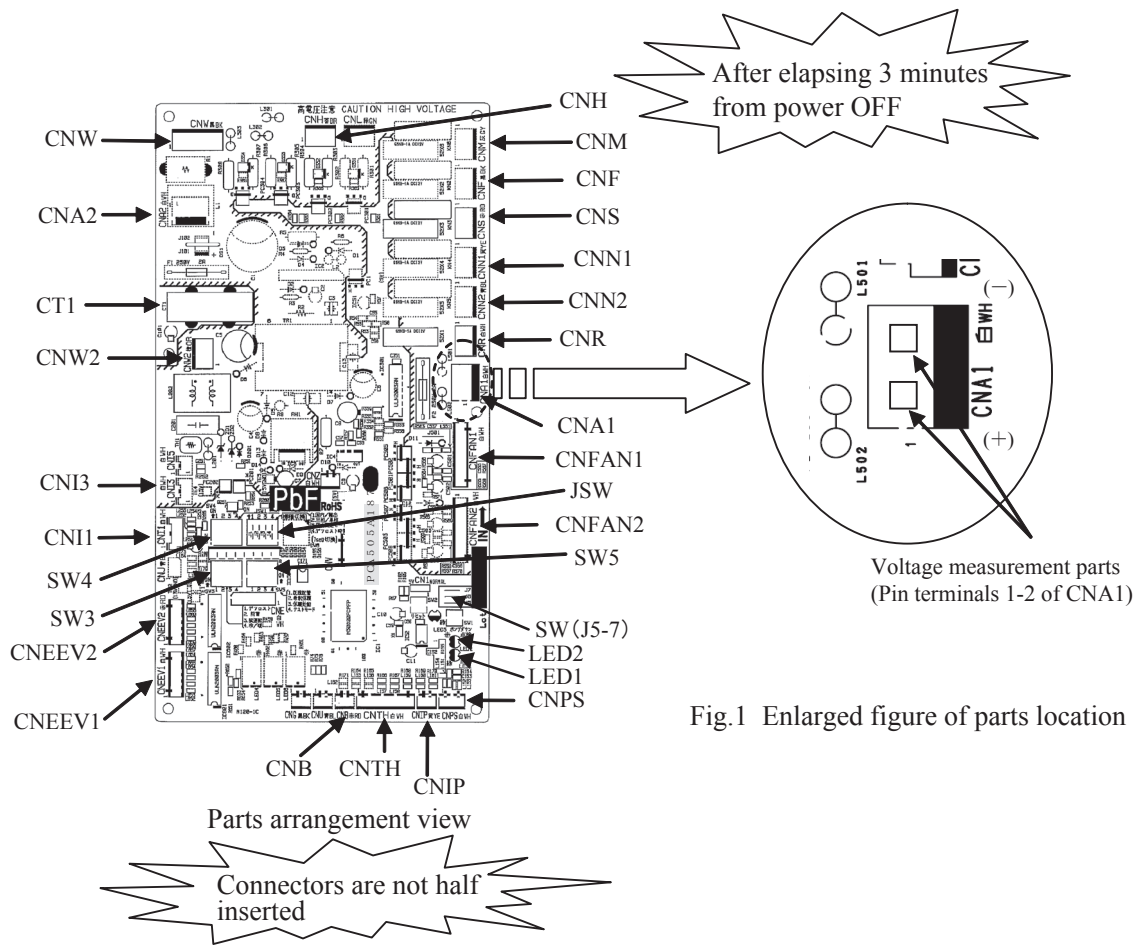

Fig.1 Enlarged figure of parts location
- 6) Connect the connectors with the control PCB referring to the parts arrangement of Fig. 1.
**(Be sure to measure voltage (DC) on both capacitor terminals located in control back, and check that the voltage is discharged sufficiently.** (Refer to Fig.1))
(**Be sure to measure voltage (DC)** on both capacitor terminals located in control back, and **check that the voltage is discharged sufficiently**.(Refer to Fig.1))